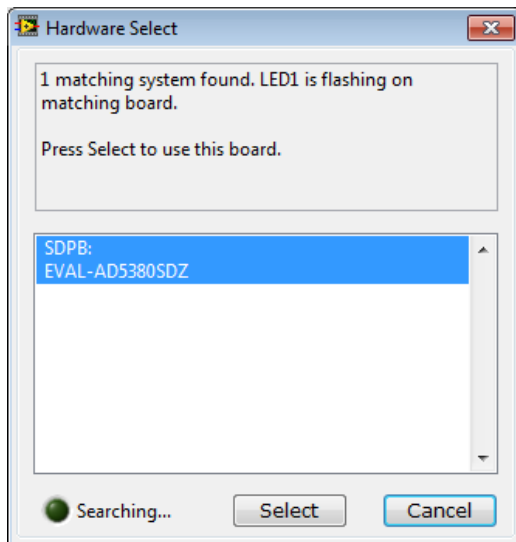

Figure 3. Connection Message
3. Click **Start > All Programs > Analog Devices > AD538x > AD538x Evaluation Software**. When the software connects to the evaluation board, the message shown in Figure 3 displays.